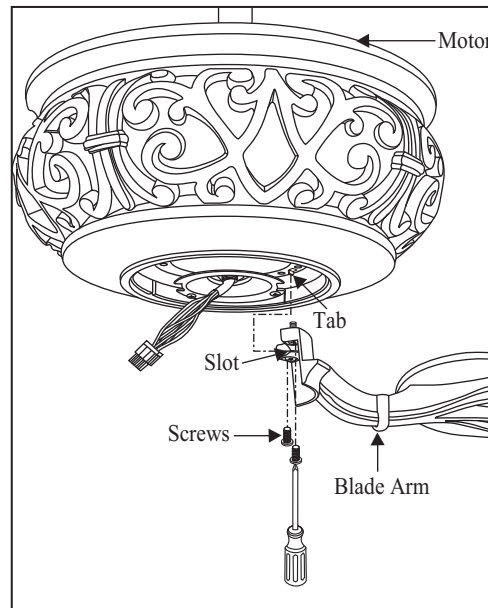

Figure 15
3. Fasten the blade assemblies to the motor housing by lining up the slots of the blade arms with the tabs on the motor housing, then tighten the two screws and washers already installed in the blade arms. (Figure 15)